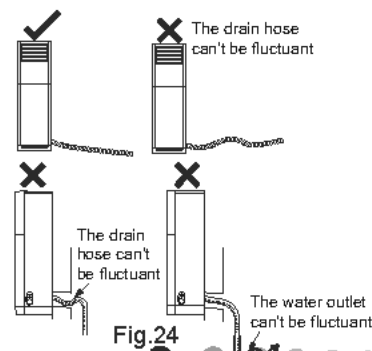

Fig.24
2. Slant the drain hose slightly downwards. The drain hose can't be curved, raised and fluctuant, etc. (As show in Fig.24)